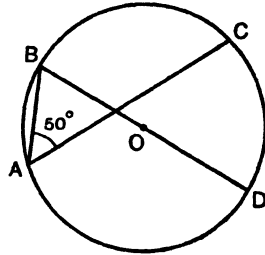

FIG. 34. DIAGRAM FOR EXAMPLE I
1. O is the centre of a circle ABCD, and BOD is a straight line, Fig. 34.